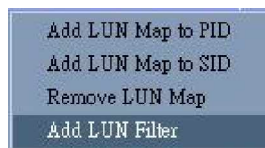

Figure 10-8: Add LUN Filter
Step 1. Multiple filter entries can be added to a configured array. To manually add a filter setting, **left-click** to select and **right-click** on one of the existing host LUN(s). This applies when a newly added server needs to access a previously mapped capacity, or when a server needs to be removed from the list of servers that can access the array. A command menu displays as shown in *Figure 10-8: Add LUN Filter*.